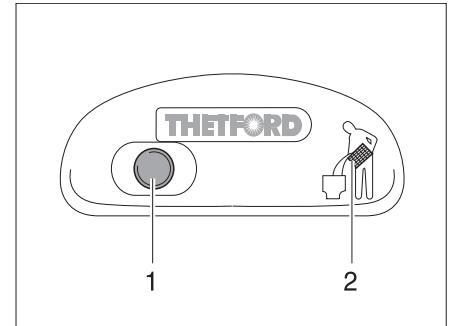

Fig. 101 Flush button/indicator lamp Thetford toilet
- For flushing, press the blue flush button (Fig. 101,1).
The indicator lamp (Fig. 101,2) goes on whenever the Thetford cassette has to be emptied.